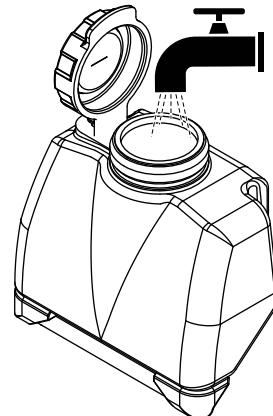

Figure 9. Fill and Leak Check
1. Check the water tank for leaks after filling up with water (Figure 9).